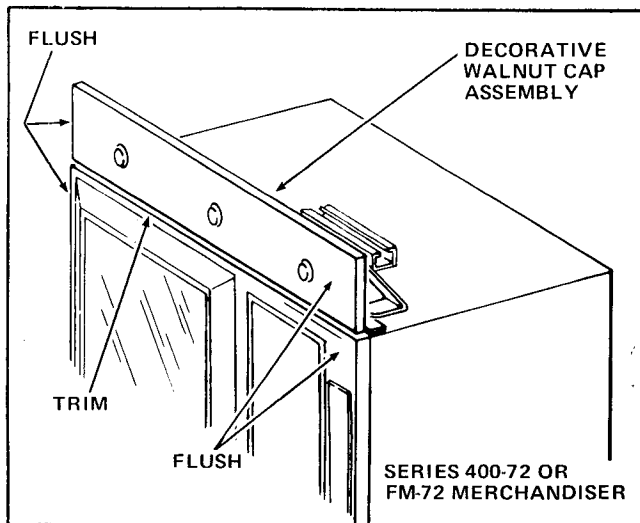

FIGURE 7
1. Place the Decorative Walnut Cap Assembly on the top of the Merchandiser Cabinet with the sides of the Cap Panel flush with the sides of the Merchandiser. The front face of the Cap Panel is to be aligned with the front of the Merchandiser Cabinet. See Figure 7.
6. Align the sides of the Cap Panel with the sides of the Merchandiser and the front face of the Cap Panel with the front of the Merchandiser Door. See Figure 7.